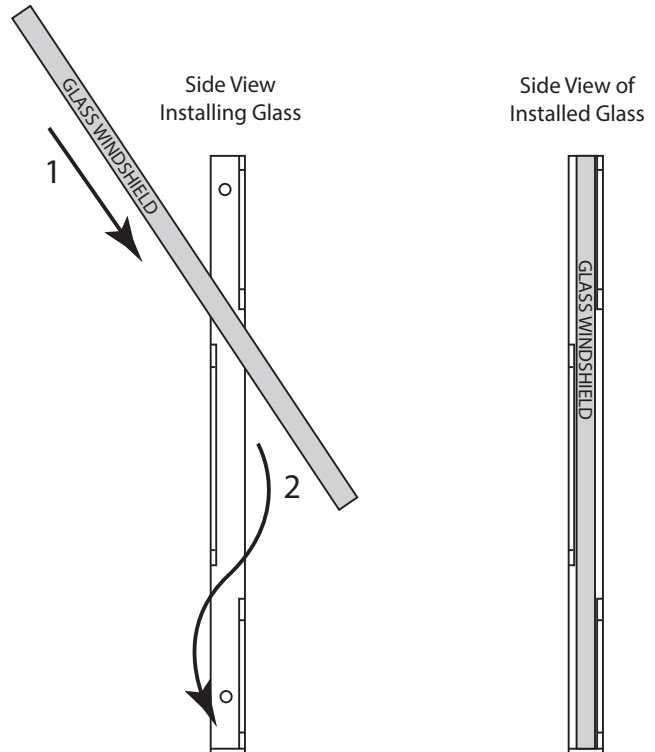

Fig. 22 Installing windshield into clips (glass holders).
3. Carefully bring the bottom edge of the glass into the top area of the windshield clip (See Fig. 22).